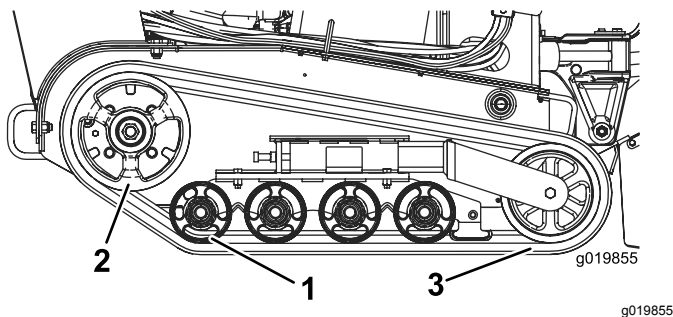

Figure 46
Important: Ensure that you fully clean the road wheels and the drive wheel (Figure 46). The road wheels should rotate freely when clean.
8. Beginning at the drive wheel, coil the new track around the wheel, ensuring that the lugs on the track fit between the spacers on the wheel (Figure 46).
9. Push the track under and between the rear and center road wheels (Figure 46).